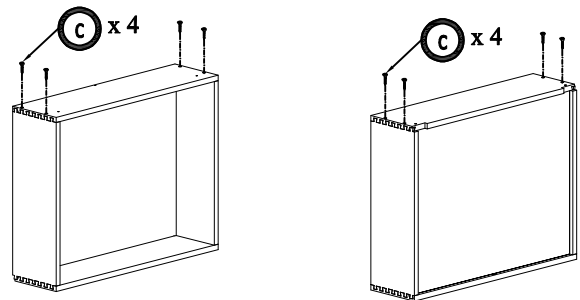

Figure 4
4. Assemble screw 1" into drawer back with drawer side and drawer front with drawer side (Figure 4)